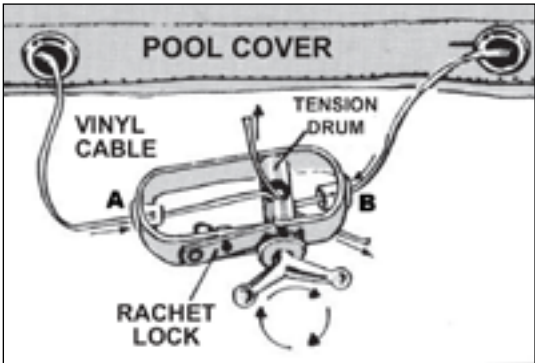

figure 3
6. Insert one end of the cable through opening A and the other end through opening B of ratchet. Bring both ends through the opening in the tension drum from opposite directions. (*figure 3*) Pull ends through until cable appears reasonably taut around pool edge.